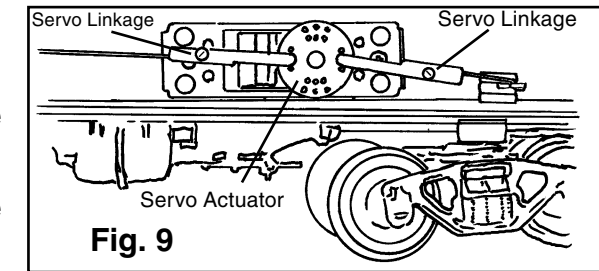

Fig. 9
**14)** Attach servo linkages to servo actuator and reposition if needed, as shown. see **Fig. 9**